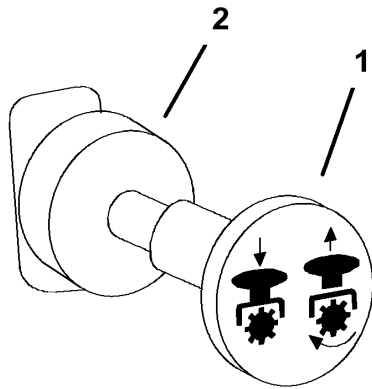

Figure 14
1. Disengage the PTO, move the motion control levers to the neutral locked position and set the parking brake (Figure 14).
4. Pull out on the power take off (PTO) switch to engage it (Figure 14).
To disengage, push the PTO switch to the **off** position (Figure 14).